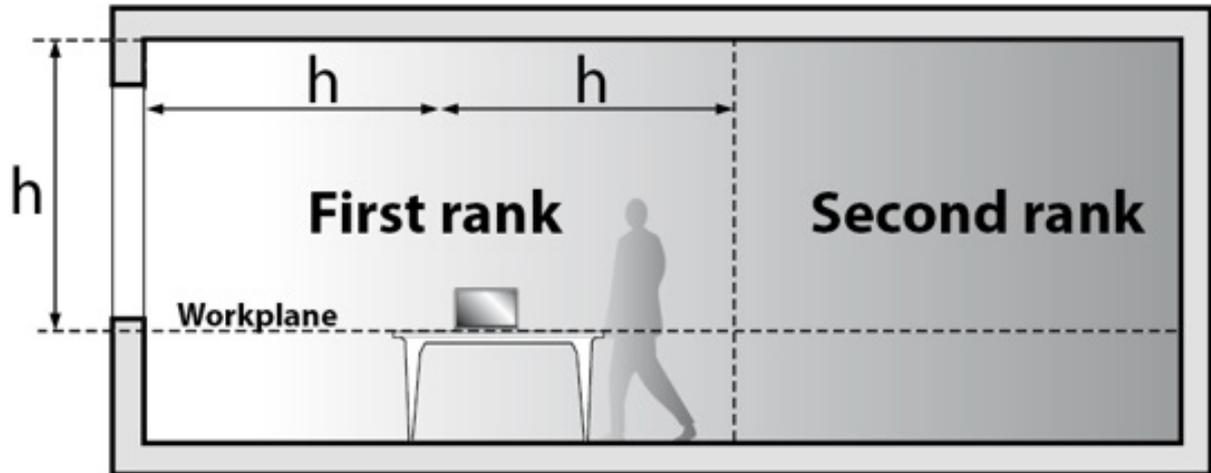

Figure 130: First and second rank area according to the Certives® standard definition.
1. Click on this button to calculate the daylight factor values within the “first rank” area (see schematic definition in Figure 130).